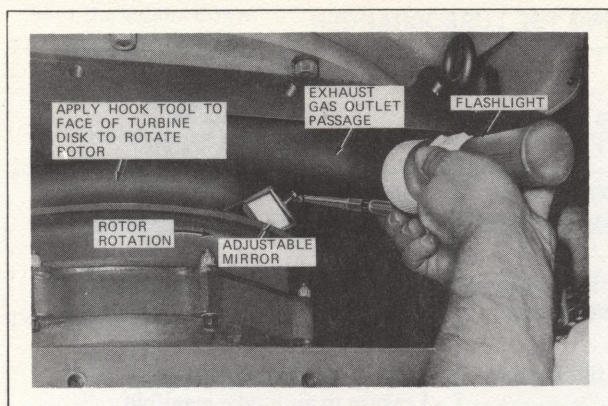

FIG. XII-2. INSPECTING TURBINE-BUCKET BLADES.
1. Working down thru the stack, use a flashlight and a mirror positioned to observe the turbine-disk blades, Fig. XII-2. While observing the blades, use a hook tool, made from 1/8-in. diameter stainless steel, to lift and rotate rotor thru one complete revolution. Examine all blades for possible damage caused by foreign material, and check rotor for free rotation. Performing this operation will often break up carbon build-up (which causes reduced rotor speed) and allow continued use of the turbocharger.